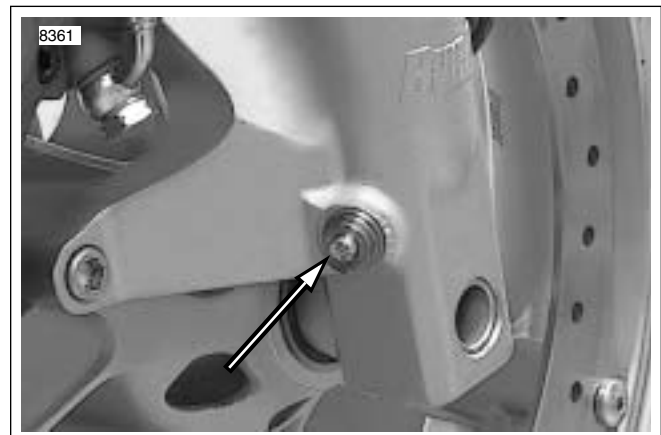

Figure 1-36. Front Fork Compression Damping Adjuster
1. See Figure 1-36. Using a screwdriver, turn the slotted dial clockwise until it stops. This is the maximum compression damping setting.